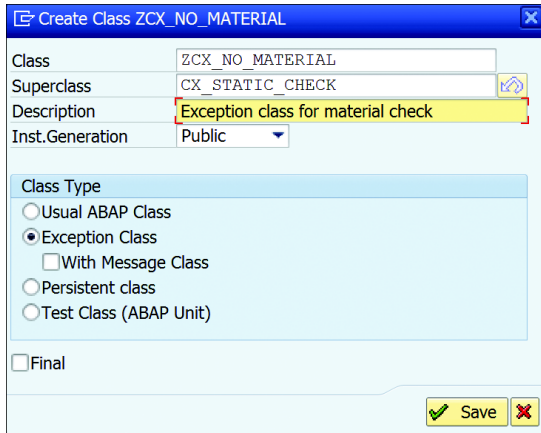

Figure 9.15 Class Properties Dialog Box
2. The system will present the properties dialog box. Because you used the naming convention `ZCX_`, the system automatically assigns `CX_STATIC_CHECK` under `SUPERCLASS` and selects the `EXCEPTION CLASS` radio button under `CLASS TYPE`, as shown in Figure 9.15. Optionally, you can change the superclass to `CX_DYNAMIC_CHECK` or `CX_NO_CHECK` or any class that inherits these abstract classes. Maintain a description for the class and set the preferred instantiability for the class, as shown in Figure 9.15.